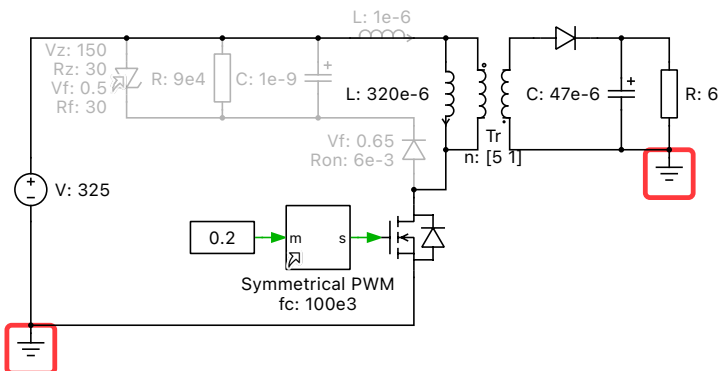

Figure 15: Flyback converter PLECS and PLECS Spice compatible (tutorial stage 3)
Your model should now match the one shown in Fig. 15, which is available in the file `flyback_converter_3.plecs`. It is now possible to simulate the converter with PLECS Spice by selecting the SPICE configuration for all subsystems.
- 4 A **model reference** has now been created, indicated by the small black arrow in the bottom-left corner of the component (see Fig. 15). Any edits made to the original component are automatically applied to the referenced subsystem.